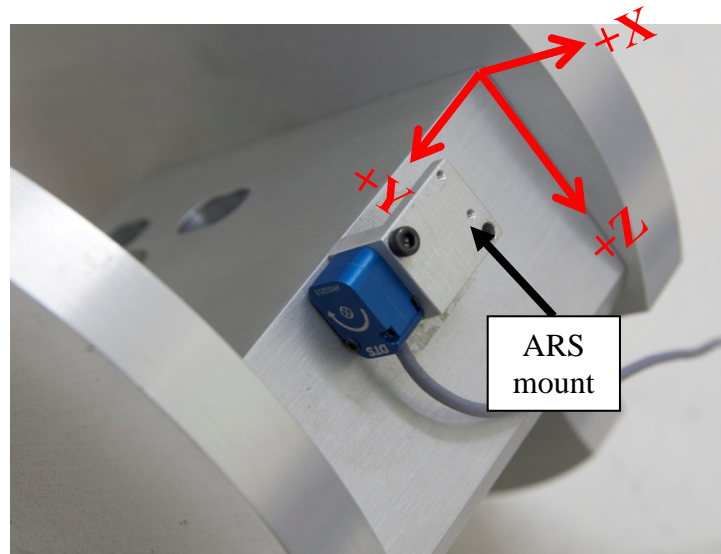
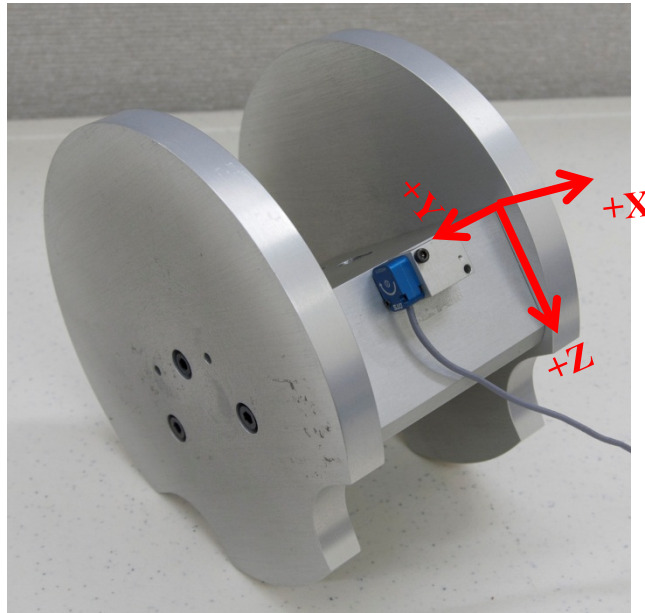

Figure 16. Install ARS mount to front of headform
Figure 17. ARS installed to measure rotational velocity about Y axis
- Install the Angular Rate Sensor (ARS) to the ARS mount then install the mount to the front of the headform¹ so that it measures rotational velocity about the (headform) Y axis² (Figure 16 and Figure 17).